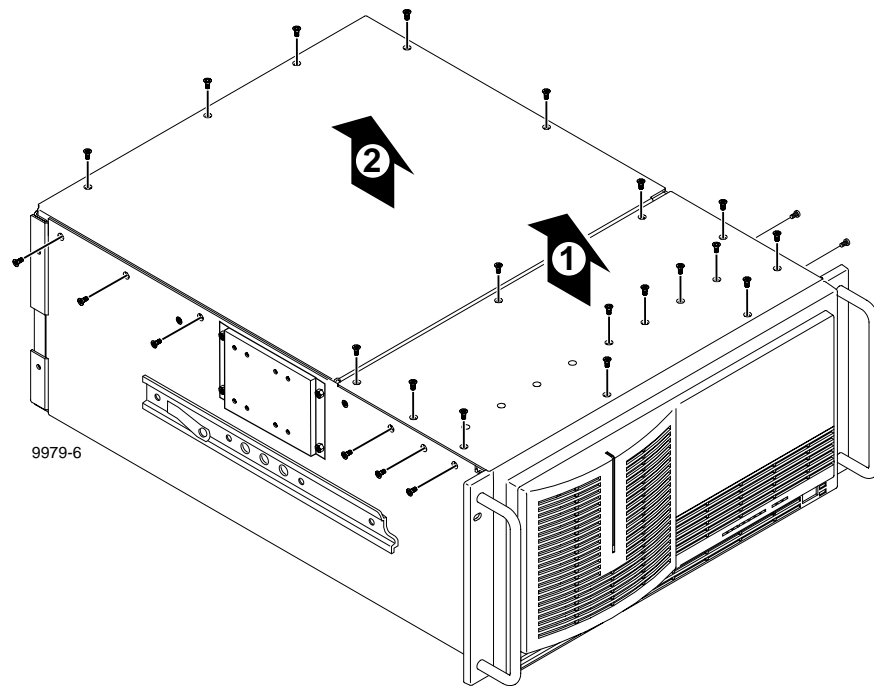

Figure 2. Removing the Top Covers
Use the Torx tool with the T10 tip to remove the top covers. Note that the front cover (❶ in Figure 2) must be removed first, since its rear edge overlaps the front edge of the rear cover (❷ in Figure 2).